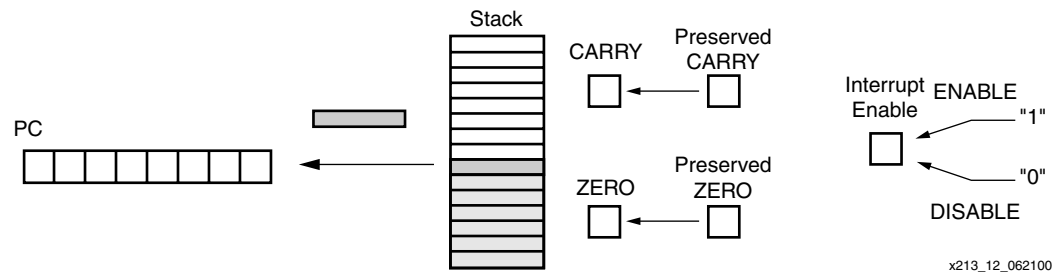

Figure 12: **RETURNI** Instruction
The RETURNI instruction is a special variation of the RETURN instruction (Figure 12). It concludes an interrupt service routine. The RETURNI is unconditional and always loads the program counter (PC) with the last address on the program counter stack. The address does not increment in this case, because the instruction at the address stored needs to be executed. The RETURNI instruction restores the flags to the point of interrupt condition. It also determines the future ability of interrupts using ENABLE and DISABLE as an operand.